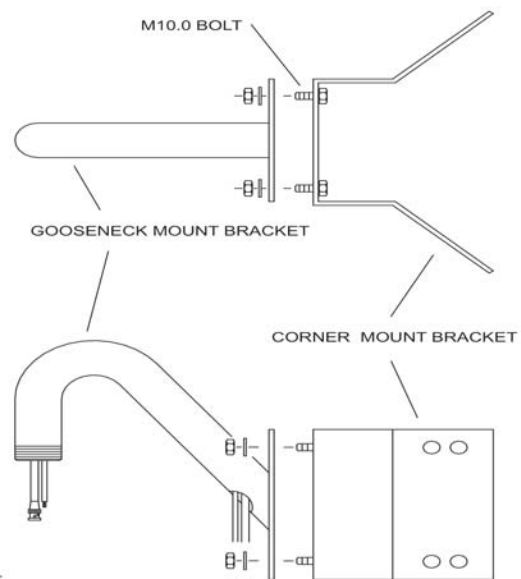

FIG.34
- G-3.** Fix the wanted bracket (wall mount bracket, gooseneck mount bracket) on the corner mount bracket with 4ea of M10 bolt before you Install the corner mount bracket.(FIG. 34)